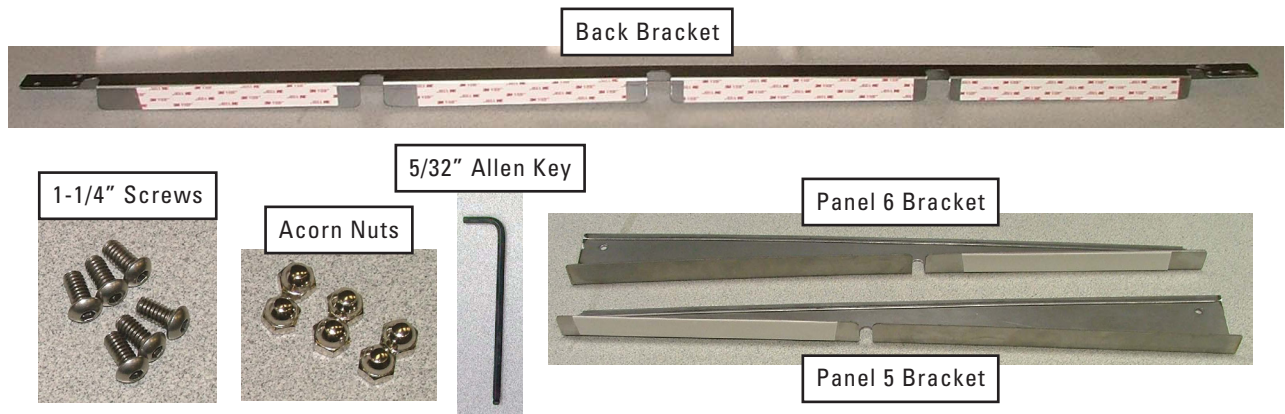

Figure 1-13. Components of the FROM Support Kit
Step 1. Identify the components of the support kit (Figure 1-13):